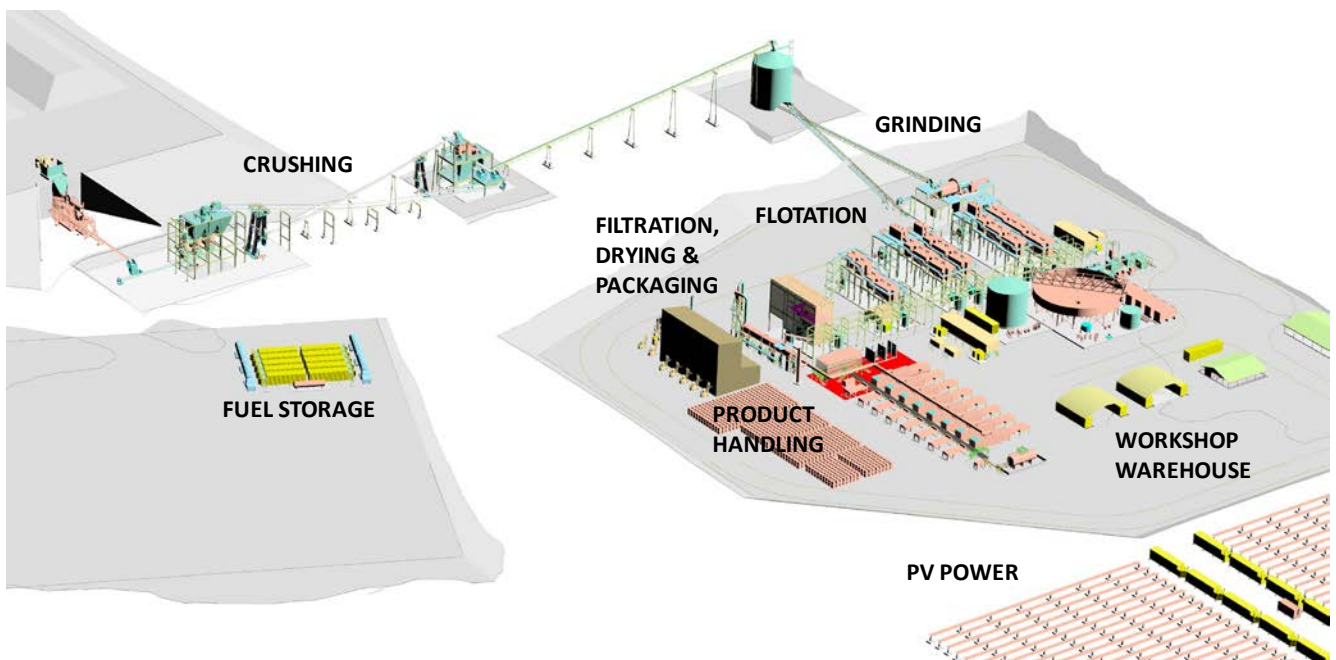

Figure 1: Plant layout showing the major operational areas for Triton’s Ancuabe graphite plant.
- Plant flowsheet and plant layout finalised (see Figure 1). Ancuabe utilises simple mechanical flotation with no chemical purification.
The results reported in this announcement are from DD holes IVD059, IVD060 and IVD061 drilled across the centre of the deposit. Refer Figure 1 and Figure 2 for a map of T16 drill collars, Table 1 for collar coordinates and Table 2 for TGC assay results of main intercepts.